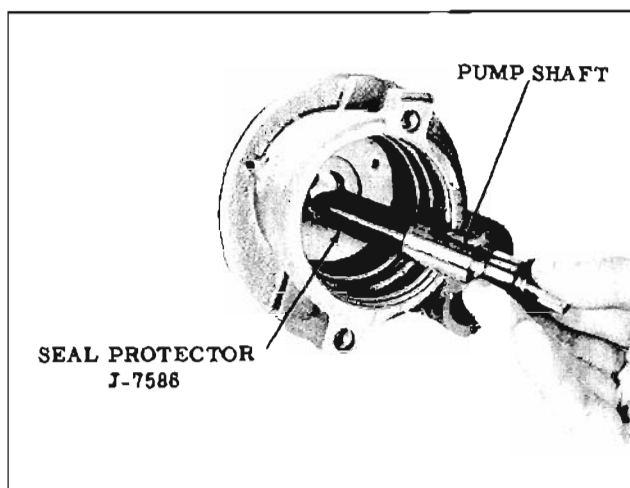

Fig. 8-32 Installing Pump Shaft
3. Place Seal Protector J-7586 over the threaded end of the shaft, then install the shaft in the pump body. (Fig. 8-32) Remove protector.